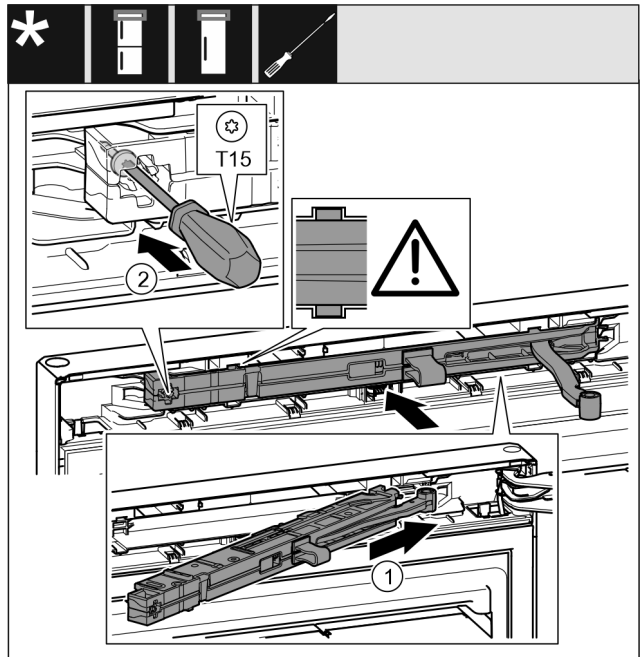

Fig. 55
- ▶ On the swap bearing block side, slide the closing damper unit *Fig. 55 (1)* into the recess at an angle up to the stop.
- ▶ Use a screwdriver to tighten the screw *Fig. 55 (2)*.